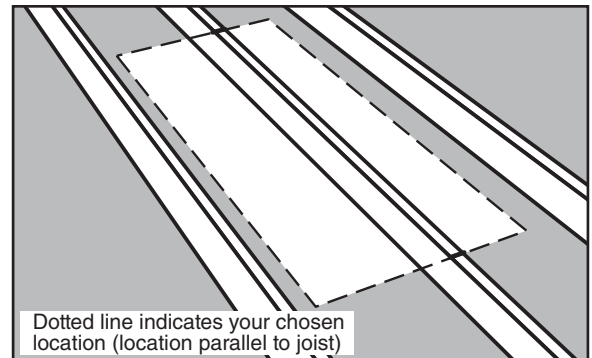

FIGURE 7
**Step 1.** If the room has a ceiling and you have cut the required hole, go to Step 2. If the room has no ceiling, you will need to mark the joists according to paragraph (A) or (B) below:
(A) If the chosen location is parallel to the joists, mark the rough opening length on top of the joists (See Figure 7).